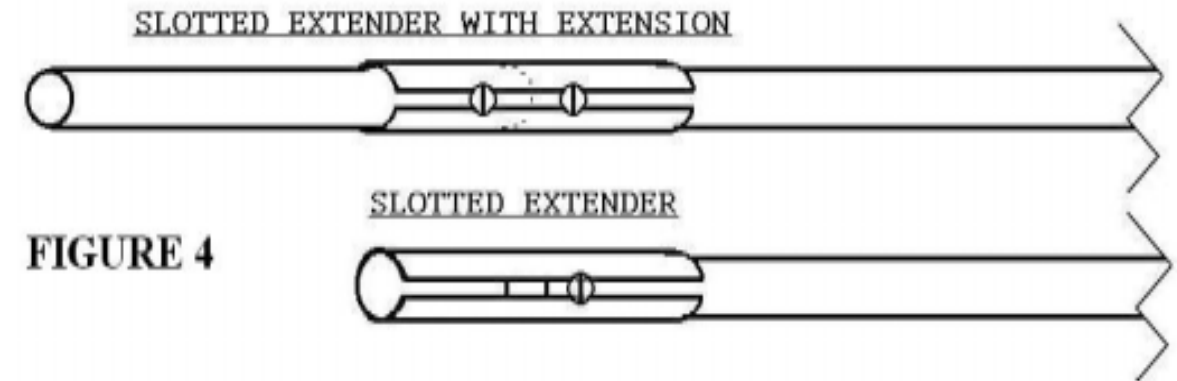

FIGURE 4
- J) Locate the extension rod with the attached slotted extender. Locate the Mid tuner on the longer standoffs. Slide the slotted extender over the bottom end of this 102" rod until it butts against the extension. Rotate the extender until the hole in the Mid tuner rod lines up with the slot in the extender. Insert a screw into this hole and slot and tighten. See figure 4.